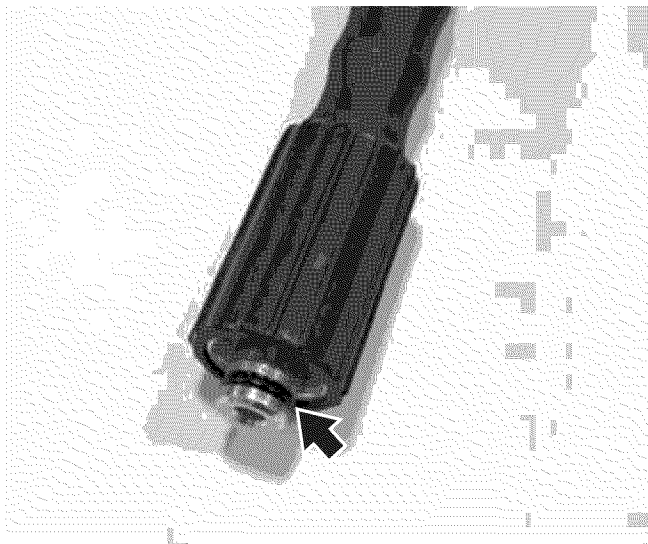

Figure 12 – High-Pressure Hose O-Rings
11. Inspect the O-rings on both sides of the high-pressure hose. Moisten the O-rings with water (see Figure 12).